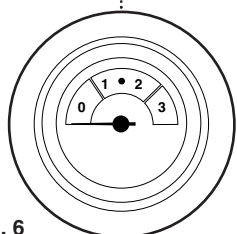

Fig. 6
4. The MINIMUM pressure for correct operation is 1. If the pressure falls below 1, this may indicate a leak on the central heating system (Fig. 6).